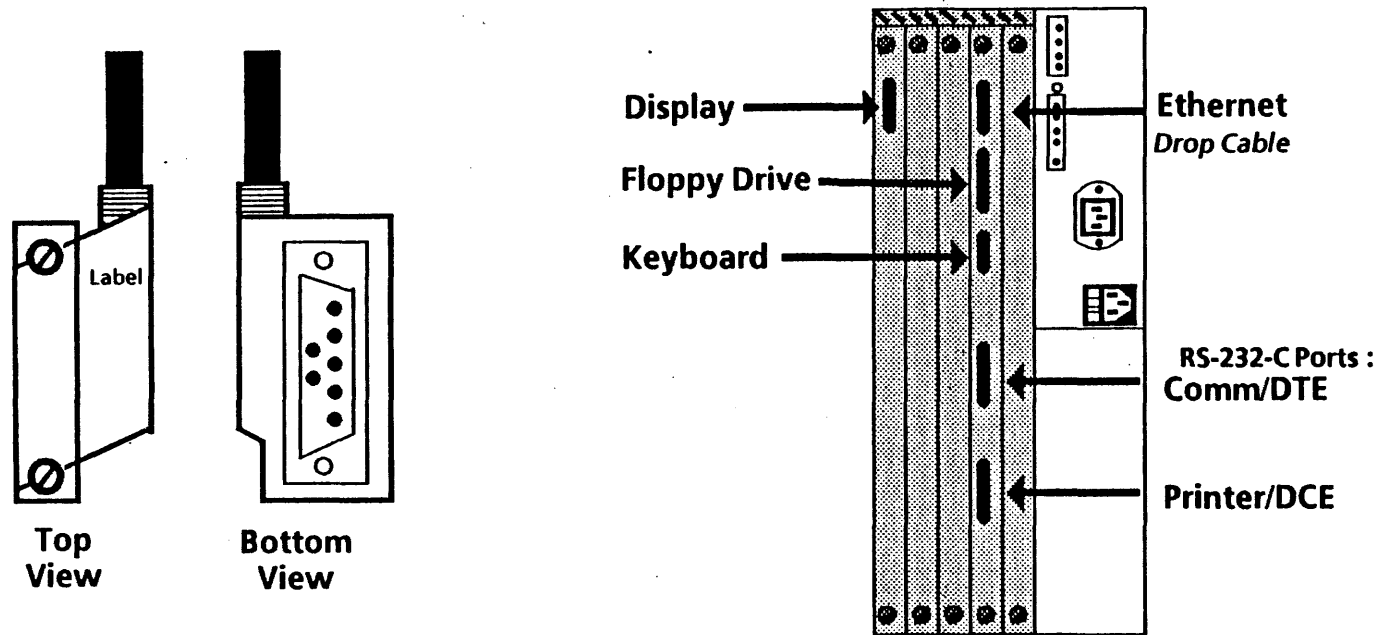

Figure 19. Connector Locations on Processor Unit Circuit Boards
3. Connect the cables to the Processor Unit C1 and C4 circuit boards and tighten the thumbscrews finger-tight. (Refer to Figure 19.)